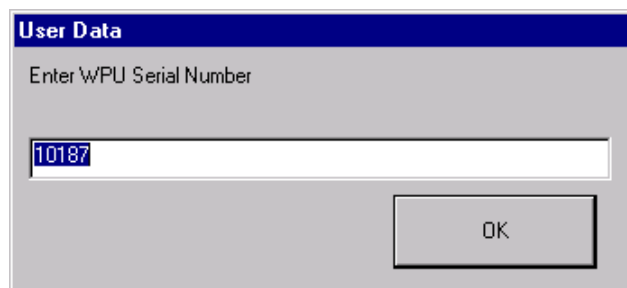

FIGURE 1-19. Typical Serial Number Dialog
- 1.40 If the WPU serial number is correct, touch the 'OK' button to continue. If the serial number is incorrect, touch the 'WPU Serial Number' field, then using the keyboard attached to the NM6400 type in the serial number previously recorded in Step 1.5. Then touch the 'OK' button to continue. See FIGURE 1-19.